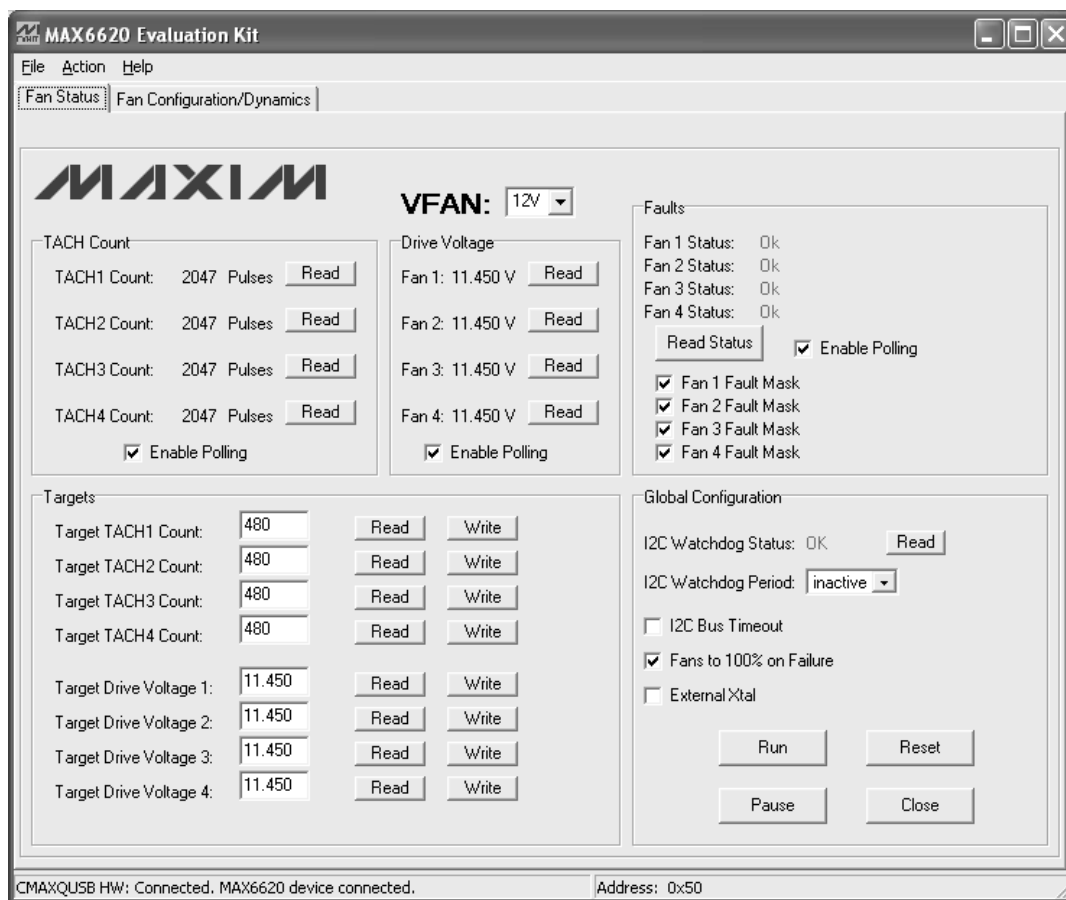
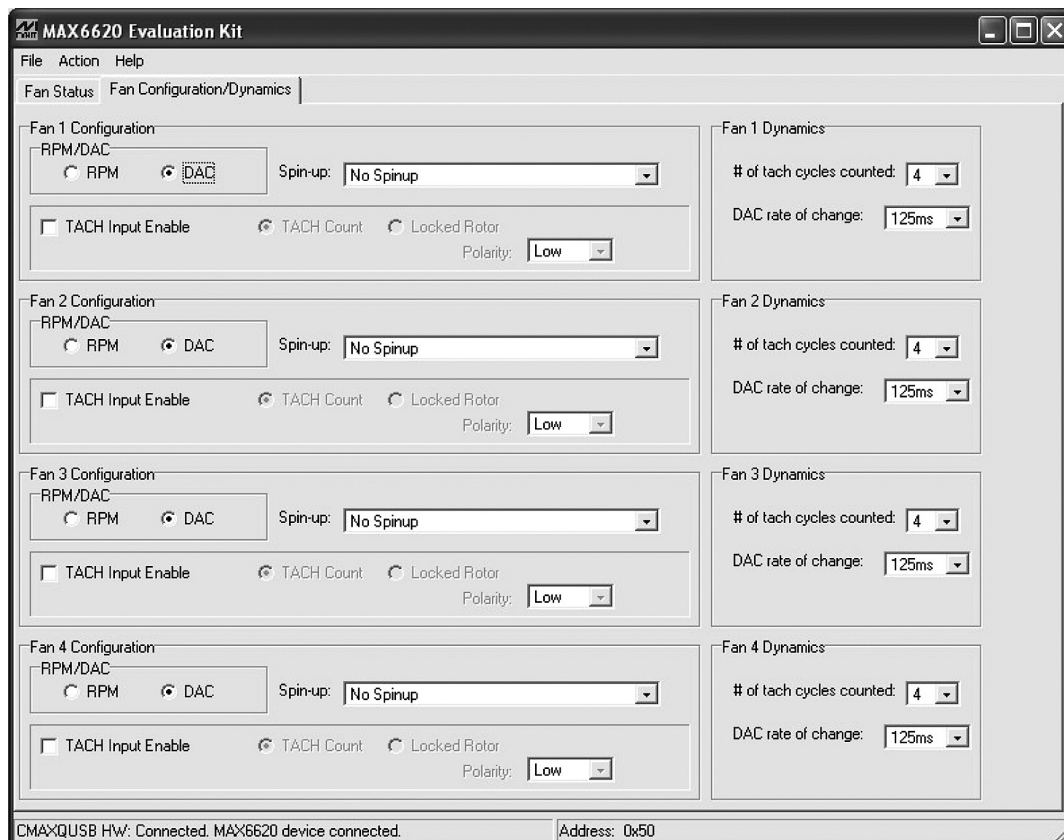

Figure 1. MAX6620 EV Kit Software—Fan Status Tab
Figure 2. MAX6620 EV Kit Software—Fan Configuration/Dynamics Tab
- 10) Normal device operation is verified when **C Maxwell HW: Connected. MAX6620 device connected.** is displayed at the bottom left of the MAX6620 EV kit main window (Figure 1).
The program's main window contains two tabs, **Fan Status** and **Fan Configuration/Dynamics**, which provide controls for the MAX6620 EV kit software's configurable features. The **Fan Status** tab sheet (Figure 1) provides controls for the **Global Configuration** register, **TACH Count**, **Drive Voltage**, **Targets**, and **Faults**. The **Fan Configuration/Dynamics** tab sheet (Figure 2) provides controls for **Fan_ Configuration** and **Fan_ Dynamics**. A status box is also provided at the bottom of the program's main window and is used to verify command module and device connectivity.
The MAX6620 EV kit software can be configured to work with 5V or 12V DC fans. Manually select the appropriate fan voltage from the **VFAN** drop-down list (Figure 1). The default setting is for use with 12V DC fans.
The **Fan_Configuration** group boxes (Figure 2) configure the corresponding fan's **Spin-up** conditions, **TACH Input Enable** settings, and set either RPM or DAC mode.
There are two methods for communicating with the MAX6620, through the normal user-interface panel (Figures 1 and 2), or through the SMBus commands available by selecting the **Interface Diagnostic Window** menu item from the **Action** menu bar. The **Maxim Command Module Interface** window pops up and includes a **2-wire interface** tab that allows for execution of the **SMBusSendByte()** and **SMBusQuick()** commands.